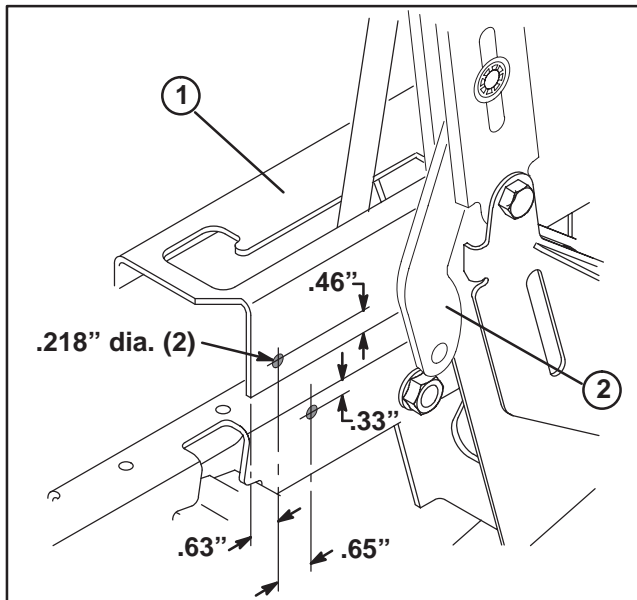

Figure 8
19. Remove (15) screws and washers securing front hood to vehicle frame and remove hood.
20. Insert end of harness with a male spade terminal, female spade terminal and wetherpak connector on it, up through opening in vehicle floor board, toward dash panel, following vehicle wire harness. Secure harness to vehicle wire harness with (2) cable ties.
26. Using dimensions shown in figure 8, locate, mark and drill (2) .218"(7/32") dia. holes in vehicle console.